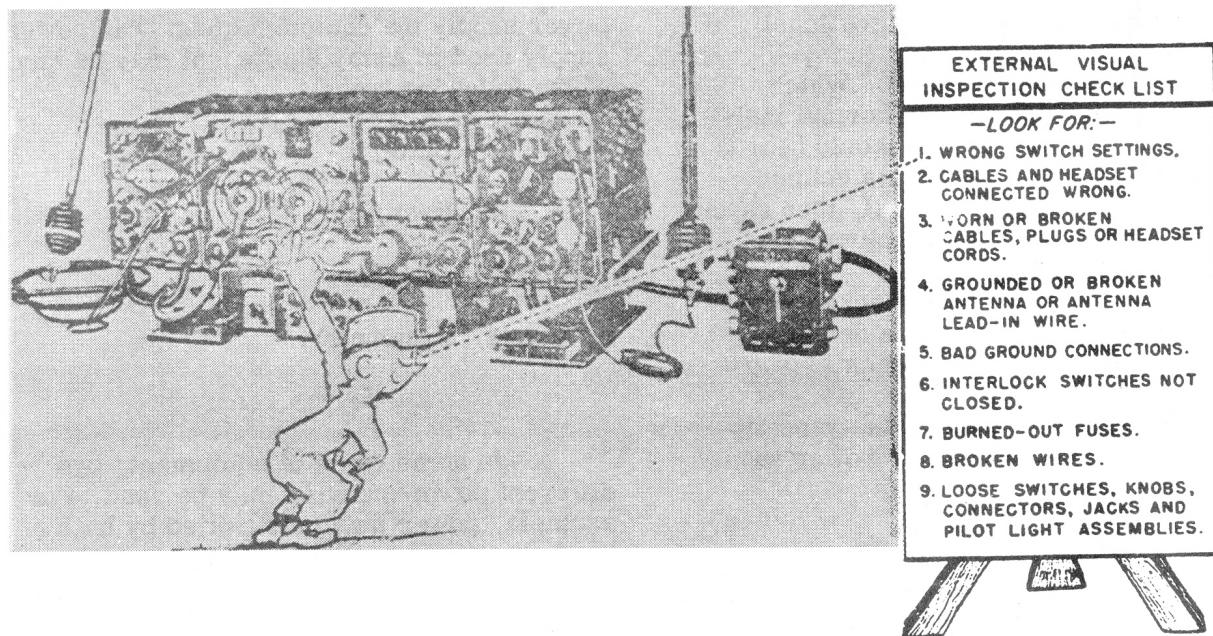

Figure 5. Give the complete set a thorough visual inspection.
- b. A list of the important things to check is given in figure 5.